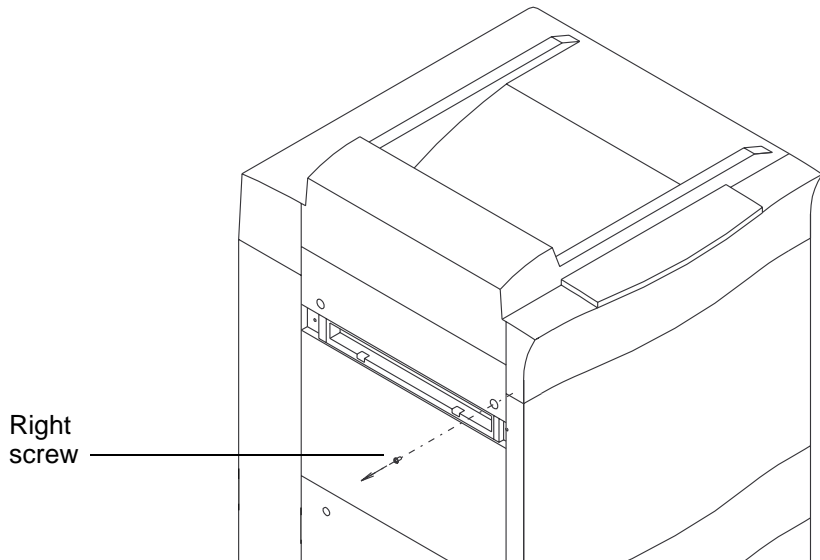

Figure 12 Removing right screw in upper cover
Step 4 Remove the right screw in the upper cover. See Figure 12.